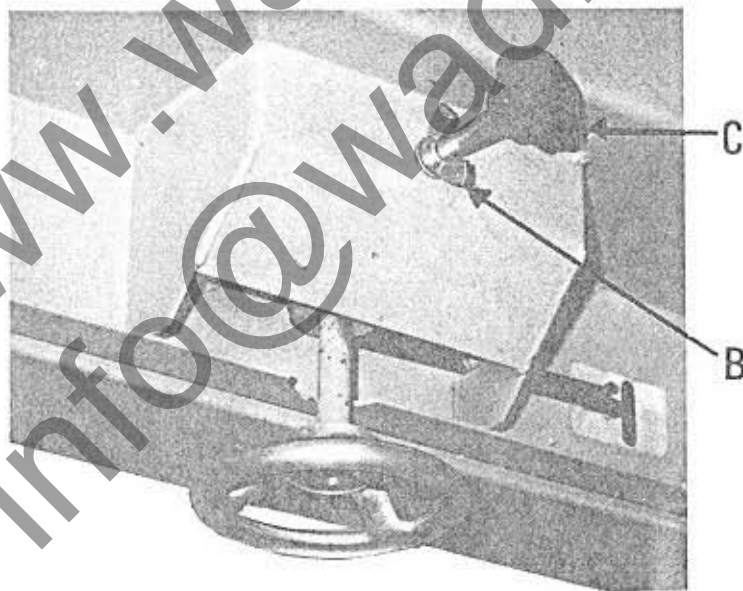

FIG 11
- Should blade not track correctly, loosen wing nut "B", fig 11 then turn handwheel "C" until saw is tracking correctly then tighten wingnut "B".